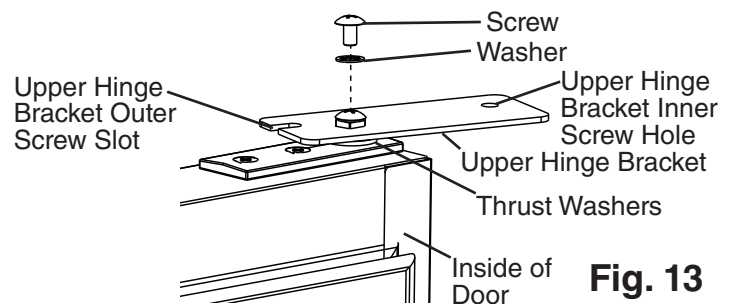

Fig. 13
- 11) Make sure the thrust washers are in place on the spring cartridge, then flip the upper hinge bracket over from its original position and install onto the spring cartridge in the door open position. See Fig. 13. The upper hinge bracket should be positioned as shown.